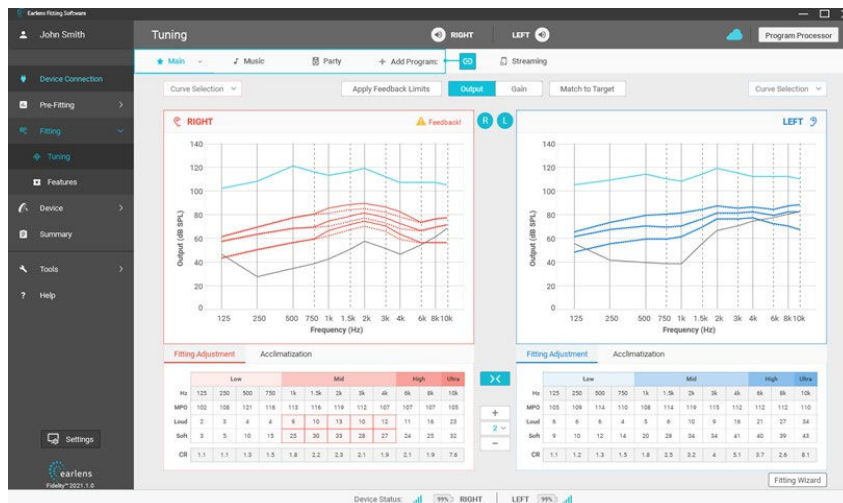

Figure 29. Tuning screen: Output Curve displaying feedback potential for the right ear
- Gain can be increased beyond the feedback limits but may result in the patient experiencing audible feedback. A warning icon will appear when feedback potential exists on a per ear and program basis. When this occurs, select “Apply” to apply the feedback limits to the frequency response (Figure 29).